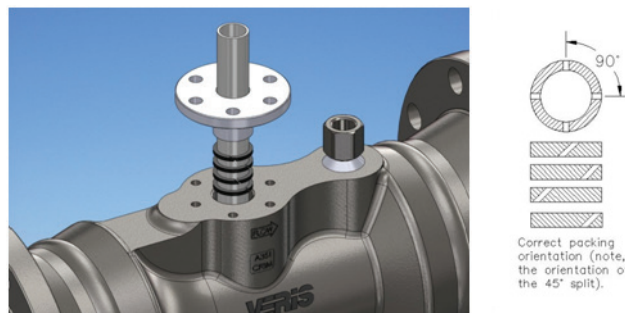

Figure 4. Packing Ring Installation
- Repeat steps for the other three packing rings, being sure that the splits in the packing rings are 90° apart as shown in Figure 4.